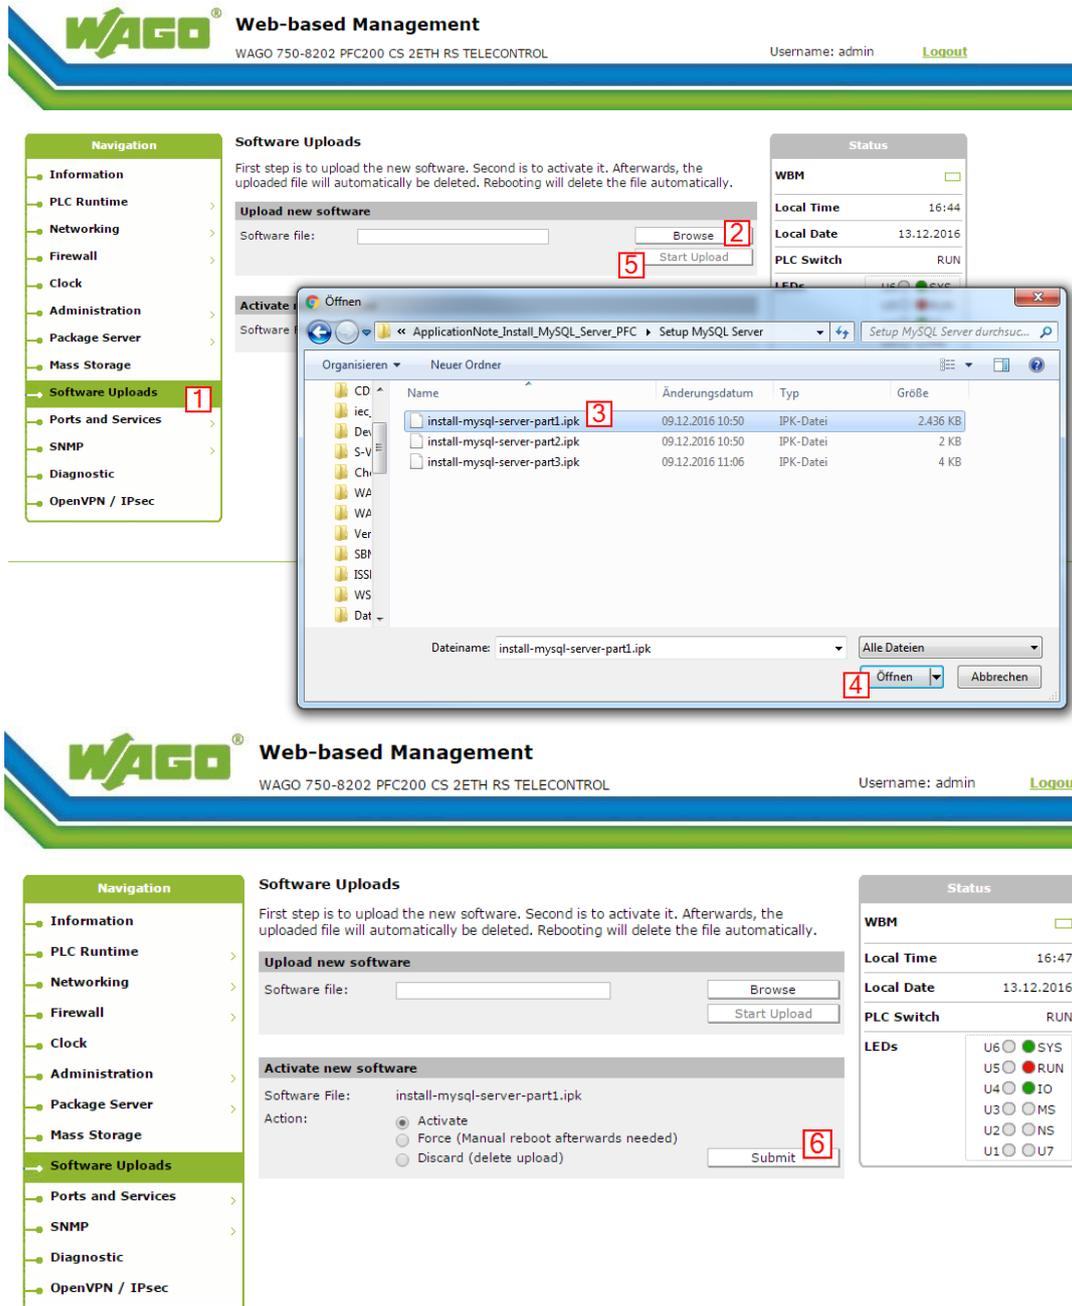

Figure 2: Uploading the IPK Files in WBM
5. Navigate to the tab “Software Uploads” (see Fig.2 - 1)).
6. Click the [**Browse**] button and select the first IPK file “install-mysql-server-part1.ipk.” Then click the [**Open**] button to select the file (see Fig.2 - 2), 3) & 4)).
7. Click the [**Start Upload**] button to start the upload (see Fig.2 - 5)).
8. After the upload has completed, activate the IPK file by ticking “Activate” and clicking the [**Submit**] button (see Fig.2 - 6)).